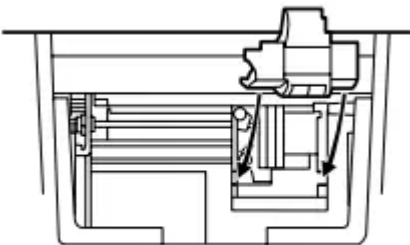

Fig. 3
4. Install the new ink roller in the correct position. Make sure that the roller is securely in place. (Fig. 3)